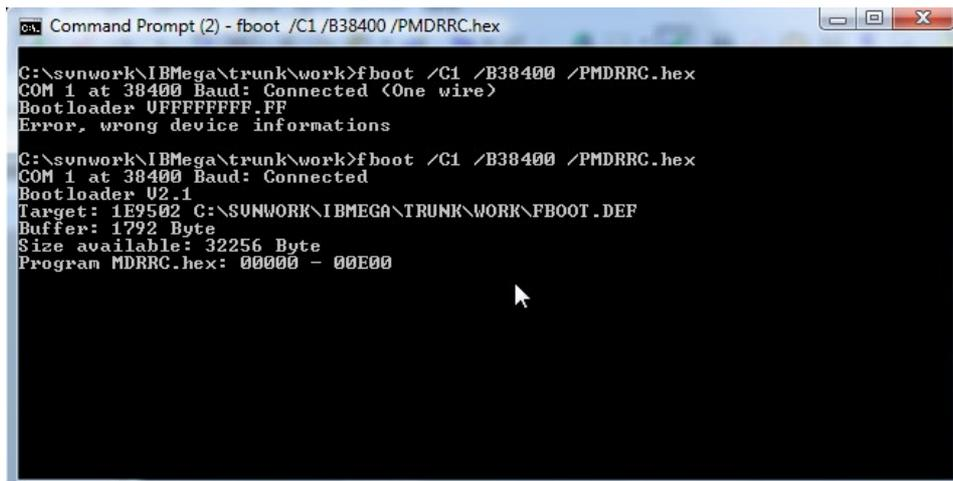

Figure 7: Programming
- Switch off/on or reset MDRRC. After the tool recognized the Atmel micro controller it will start to program it as shown in Figure 7.